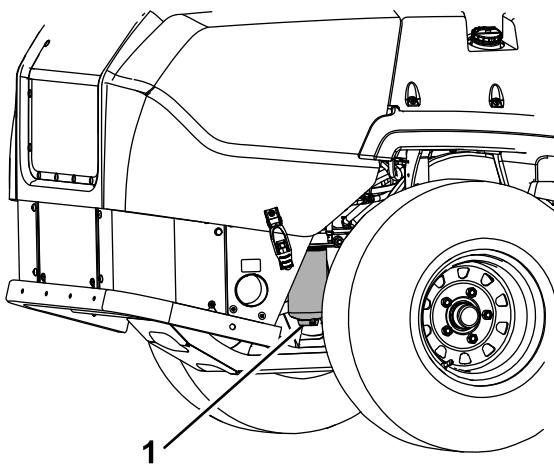

Figure 44
3. Place a drain pan under the fuel filter and loosen the drain plug approximately 1 turn (Figure 44).
2. Place a drain pan under the fuel filter and loosen the drain plug approximately 1 turn (Figure 44).